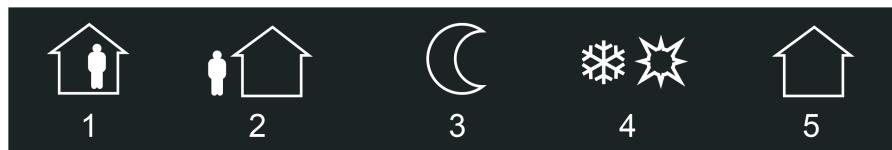

Figure 40: Status icons for the KNX function "operating mode switchover KNX"
Similarly to the status text, a symbol (C) can be displayed in the lower display area (figure 40). The displayed icon is defined separately for each operating mode and can be disabled optionally in the configuration software so that it is not displayed individually for individual operating modes. The icons allow the set controller operating mode to be identified quickly and clearly.